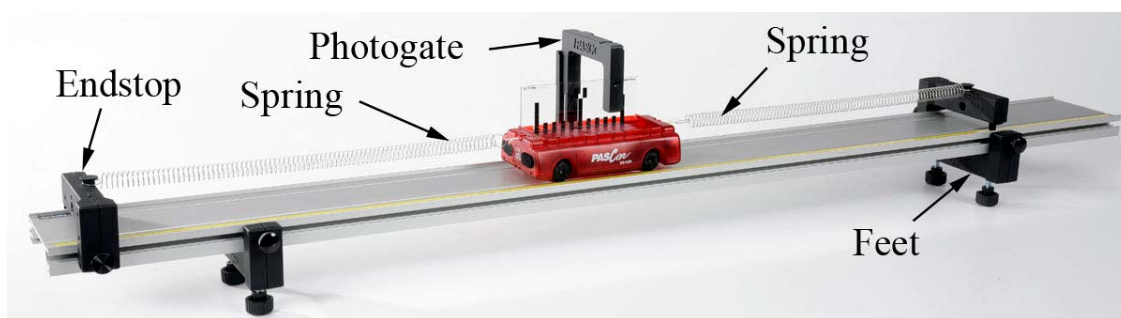

Figure 2: Cart and Track Setup
1. Set up the track as shown in Figure 2, below. Attach the Photogate before adding the endstops.